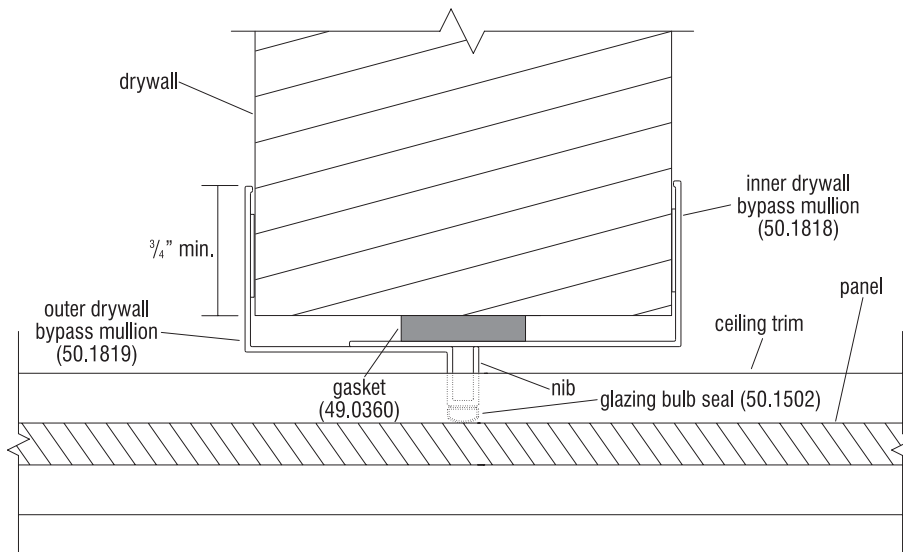

Figure 6 - Top Down View
11. Test fit inner (50.1818) and outer drywall mullion (50.1819) to drywall. Determine distance between face of drywall and backside of assembled mullion pieces (Figure 6).
12. Using that measurement, determine the amount of supplied gasket (49.0360) required to shim assembled inner/outer mullion away from drywall so that the glazing bulb seal contacts the glass of LightLine panel. Inner/outer drywall mullions must contact drywall a minimum of $\frac{3}{4}$ " (Figure 6).
15. Clean other side of drywall where the outer drywall bypass mullion (50.1819) will attach. Once clean, remove release backer from tape and apply to drywall, sliding over inner drywall bypass mullion (50.1818). Refer to Figure 6 top down view for fitment. Apply pressure to make sure of good adhesion.